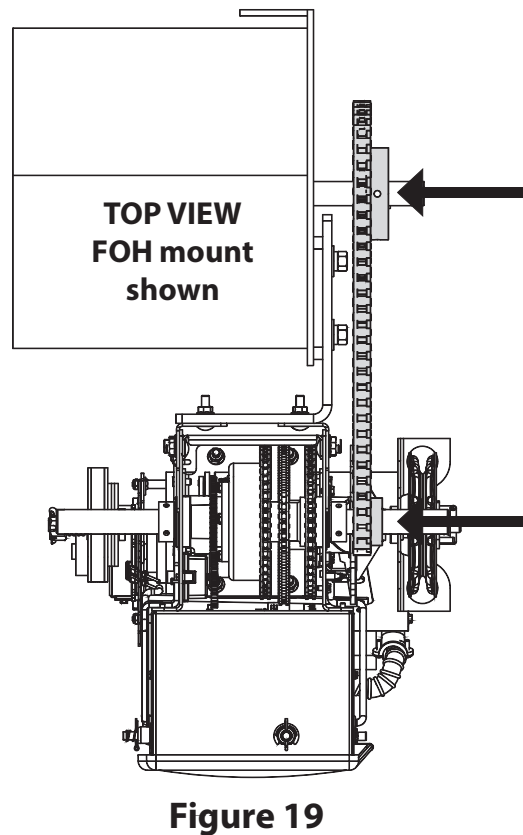

Figure 19
- Move and align sprockets and chain as close to the operator as possible. See Figure 19